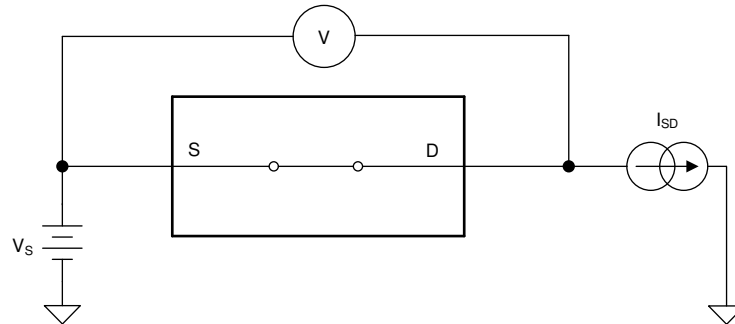

Figure 16. On-Resistance measurement setup
The on-resistance of a device is the ohmic resistance between the source (S) and drain (D) pins of the device. The on-resistance varies with input voltage and supply voltage. The symbol R_{ON} is used to denote on-resistance. The measurement setup used to measure R_{ON} is shown in Figure 16. Voltage (V) and current (I_{SD}) are measured using this setup, and R_{ON} is computed with $R_{ON} = V / I_{SD}$: